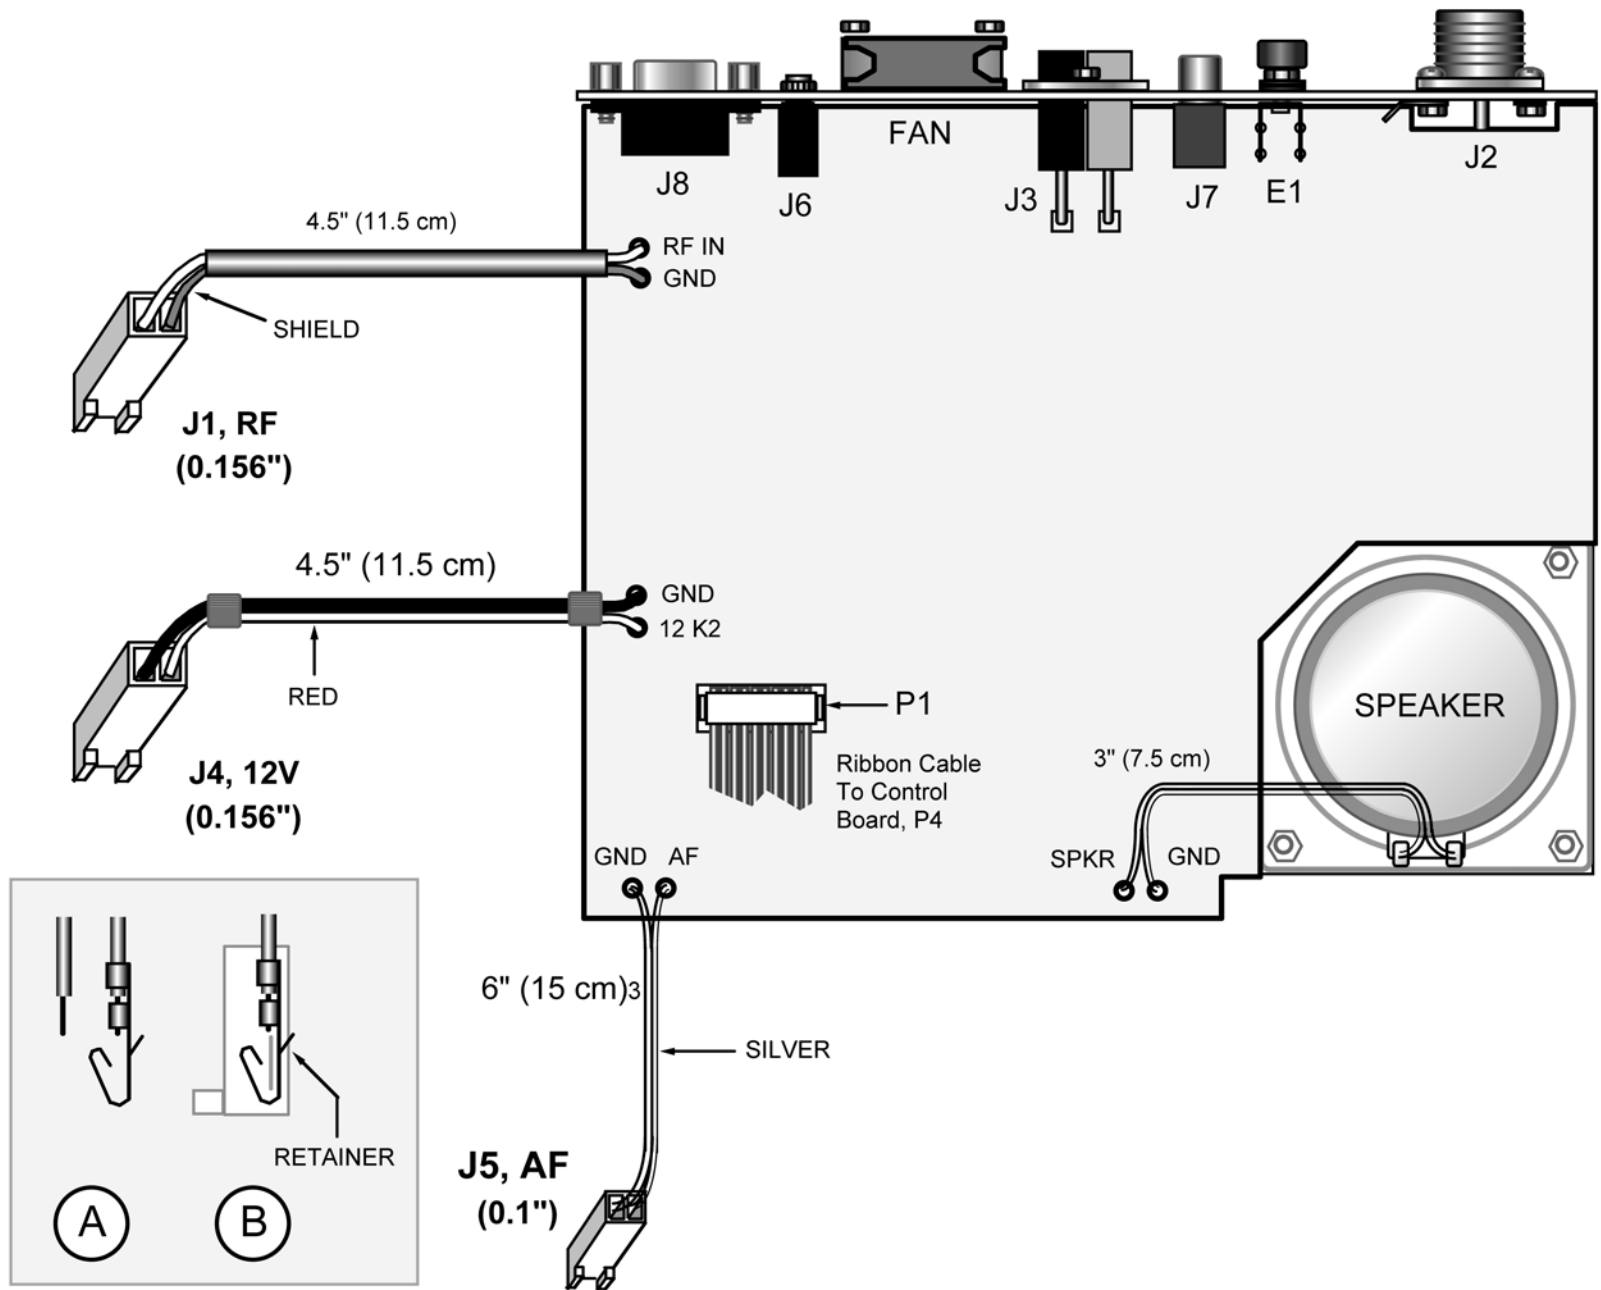

Figure 33
- Insert the terminals into a large 2-pin housing as shown in Figure 33 (**black** wire on the left, **red** wire on the right).